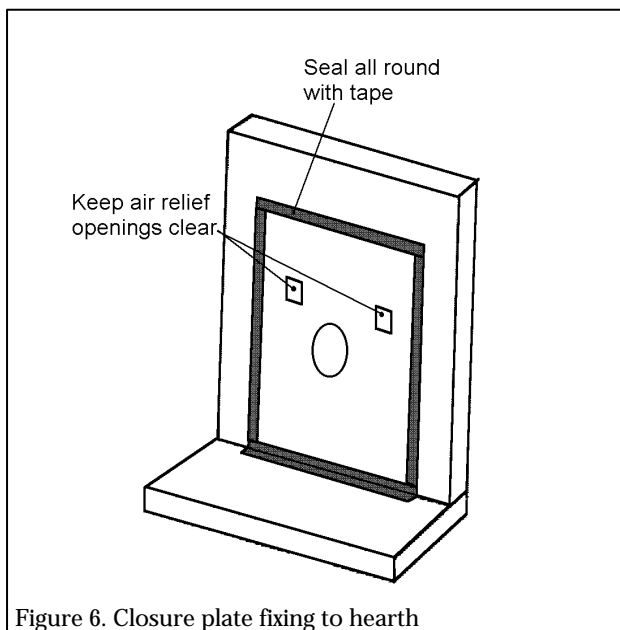

Figure 6. Closure plate fixing to hearth
3.4.2. Hearth mounting (figure 6)